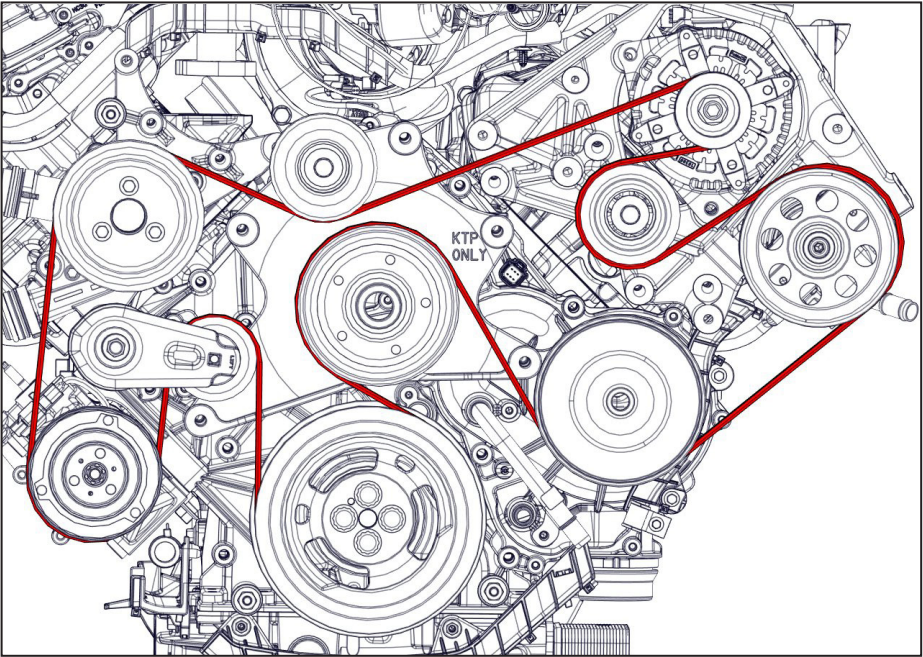
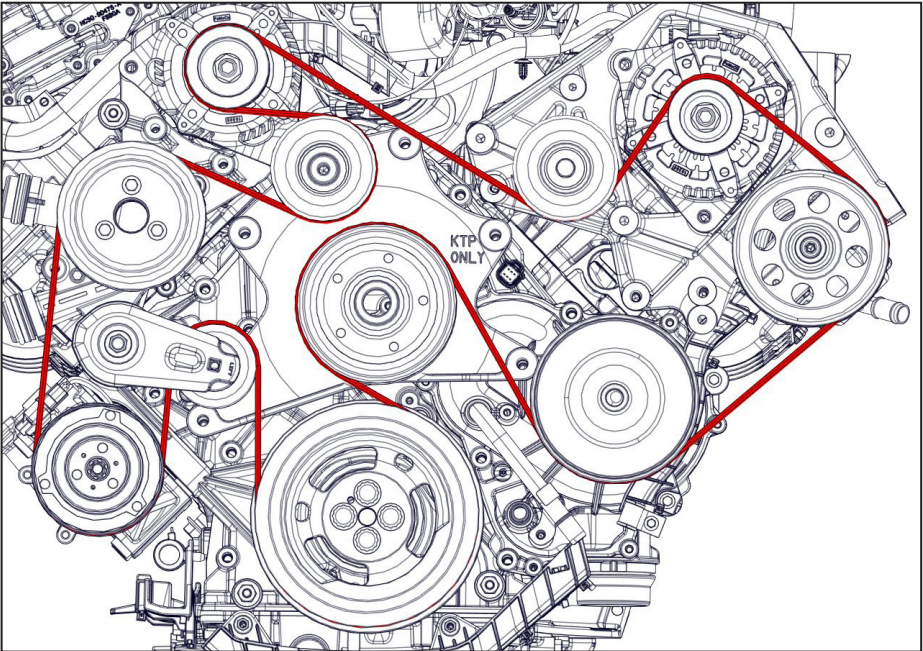

Figure 51 — OEM single alternator belt routing
Figure 52 — OEM dual alternator belt routing
□ Install and tension the OEM belt (Figure 51 or Figure 52).